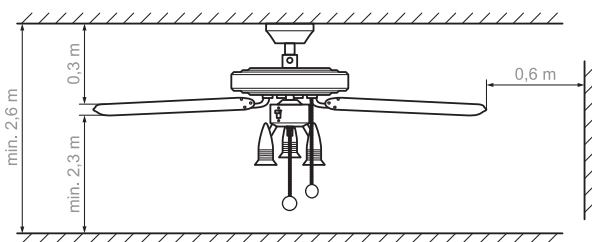

Fig. 1: Minimum distances for the ceiling fan
- The minimum distance from the tips of the blades to the floor must be 2.30 m when installed. The distance between the blades and the ceiling must be at least 0.30 m. The side distance to room walls or obstructions must be at least 0.60 m (see Fig. 1).